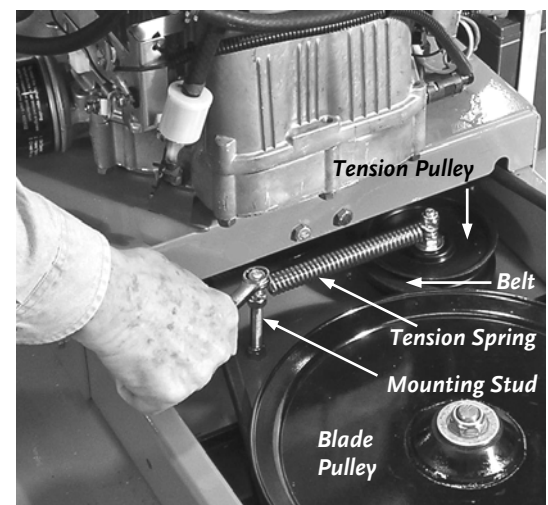

Figure 20
7. Using a 9/16" Wrench, remove the top Nut from the Belt Tension Spring Mounting Stud (**Figure 20**).
11. To install the new Belt, follow the above procedure in the reverse order making sure that the Belt is on the inside of the Tension Pulley (**Figure 20**).